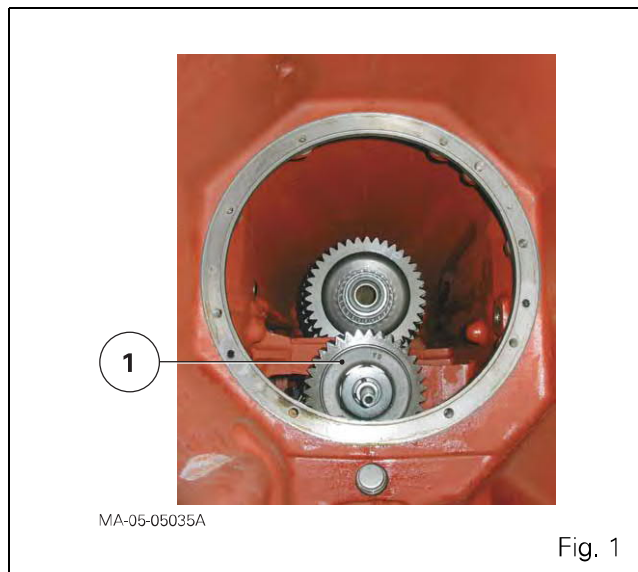

Fig. 1
The mechanical reverse shuttle transmits drive from the Speedshift to the input gear (1) of the gearbox (Fig. 1).